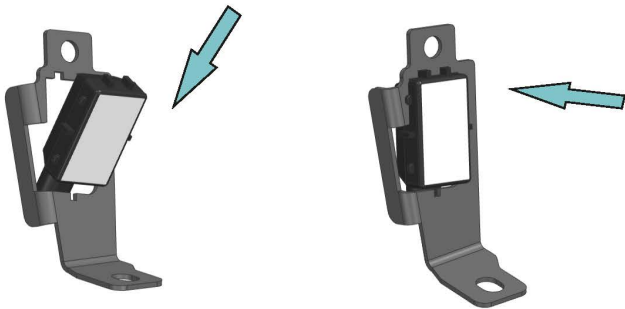

Fig. 21
21. Install OE LED lights into brackets for license plate light (item 3,4) (Fig.21).